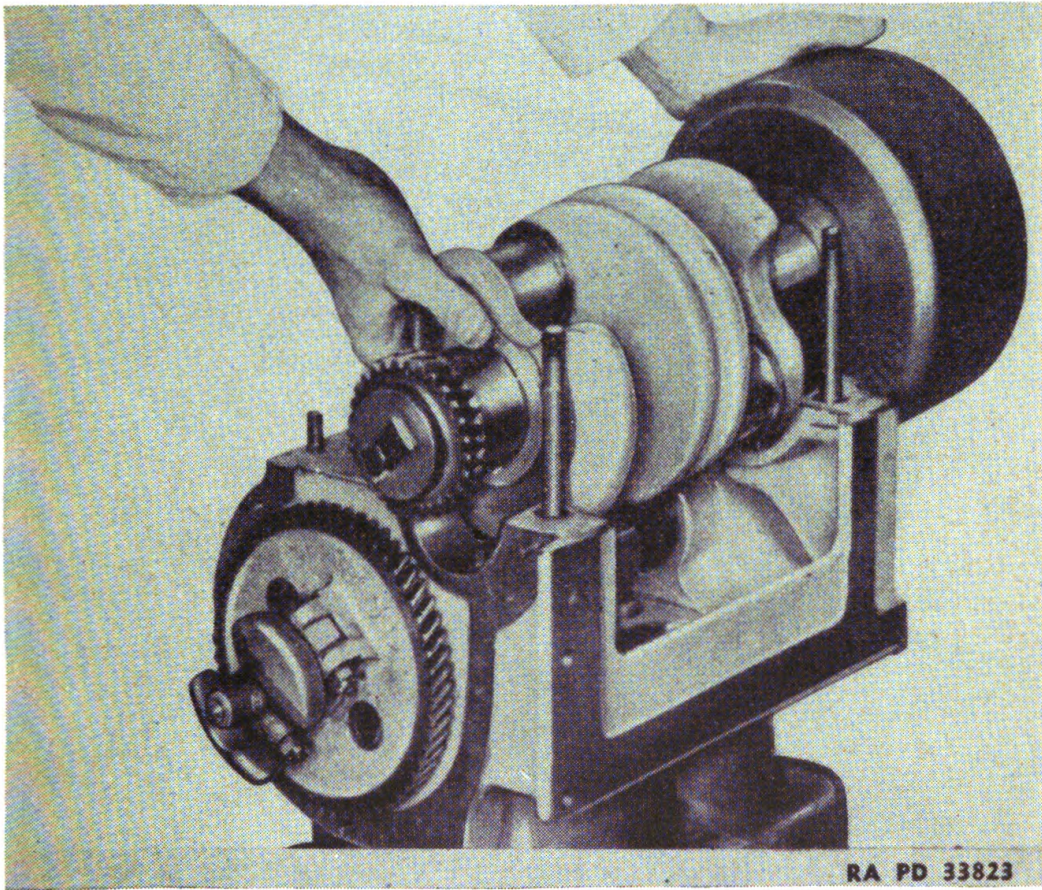

FIGURE 107.—Replacing crankshaft assembly.
- b.* The crankshaft assembly should be replaced so that the main bearings fit over their respective dowel pins (fig. 107), and the timing gear marks line up.